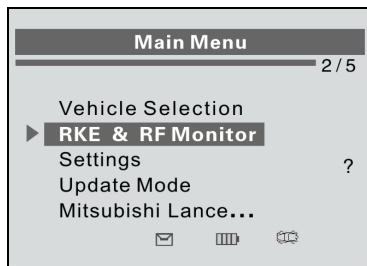

Figure 3.16
- 1) Use **UP/DOWN SCROLL** button to select **RKE & RF Monitor** from **Main Menu** (Figure 3.16), and press **Y** button to confirm.